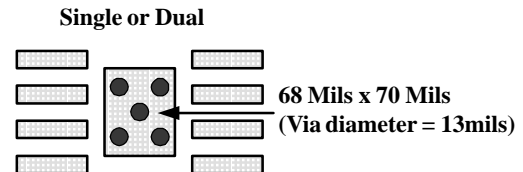

Figure 94. PowerPAD PCB Etch and Via Pattern
1. Prepare the PCB with a top side etch pattern as shown in Figure 94. There should be etch for the leads as well as etch for the thermal pad.